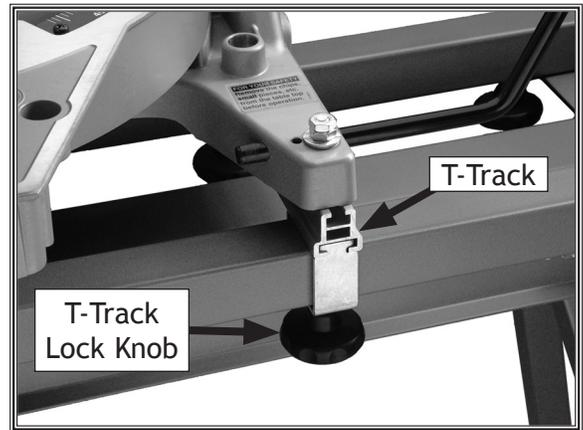

Figure 5. Mounting the miter saw.
9. Place the miter saw over the bolts, and secure each location with one washer and two hex nuts (see **Figure 5**); when securing these, tighten the top hex nut against the bottom one so they do not work loose from the vibrations that occur while cutting.